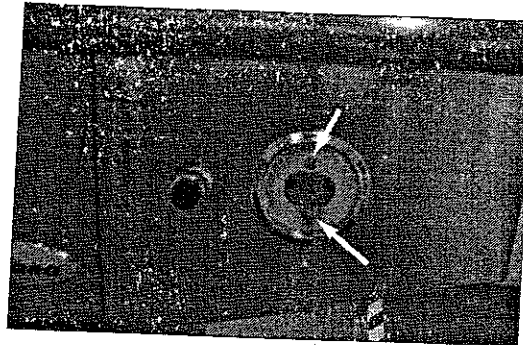

Fig 22
1. Remove the side burner knob. (See Fig. 22)
2. Remove the (2) screws holding the side burner bezel and valve. (See Fig. 22)
5. Reattach the bezel to the front of the side burner and the NG valve assembly with the screws previously removed. (See Fig. 22).